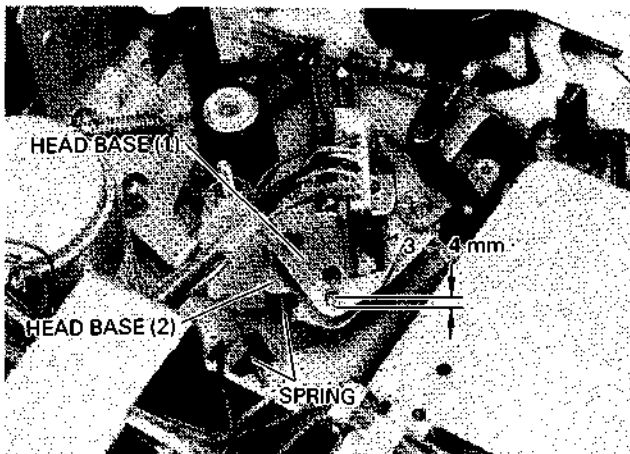

Fig. 6 Spring and Lock Screw
- 1) Remove the top cover (see item 2 in the section on case removal).
- * Apply the bottom of the spring under the head base to the stopper on the chassis, the top of the spring to the stopper on the base. (Fig. 6)